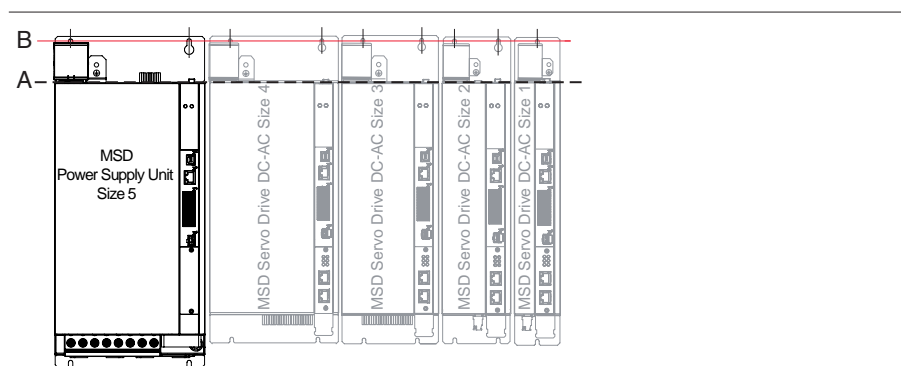
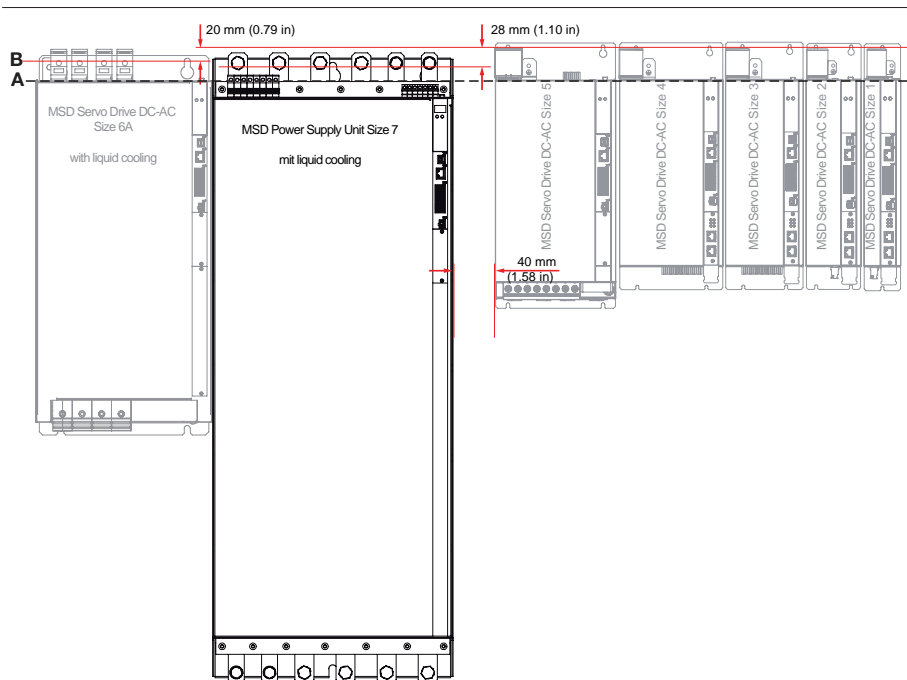

Figure 3.8 Butt mounting axis group with liquid cooling and supply unit Size 5
Figure 3.10 Butt mounting axis group with liquid cooling and supply unit Size 7
- Align the supply unit Size 5 and all MSD Servo Drive DC-AC in a line along the top edge of the devices (see line A in Figure 3.8). This action is necessary to be able to supply the DC power using the pre-assembled cables.
- Align all MSD Servo Drive DC-AC and the supply unit Size 7 in a line along the top edge of the devices (see line A in Figure 3.10). Move down the mounting bores for the supply unit Size 7 by approx. 28 mm (1.10 in) and for the DC-AC Servo Drive Size 6A by approx. 20 mm (0.79 in) (see red line B in Figure 3.10). In addition, a distance of ≥ 40 mm (1.58 in) must be maintained at the side (in the figure to the right of the supply unit Size 7). This action is necessary to be able to make the DC link connection.
Mark out the position of the tapped holes and the pipe fittings on the backing plate. Drill holes and cut a thread for each fixing screw in the backing plate. Note the mounting distances. Also pay attention to the bending radius of the connection cables. For dimensional drawings/hole spacings see Figure 3.8 to Figure 3.10 and Table 3.2.